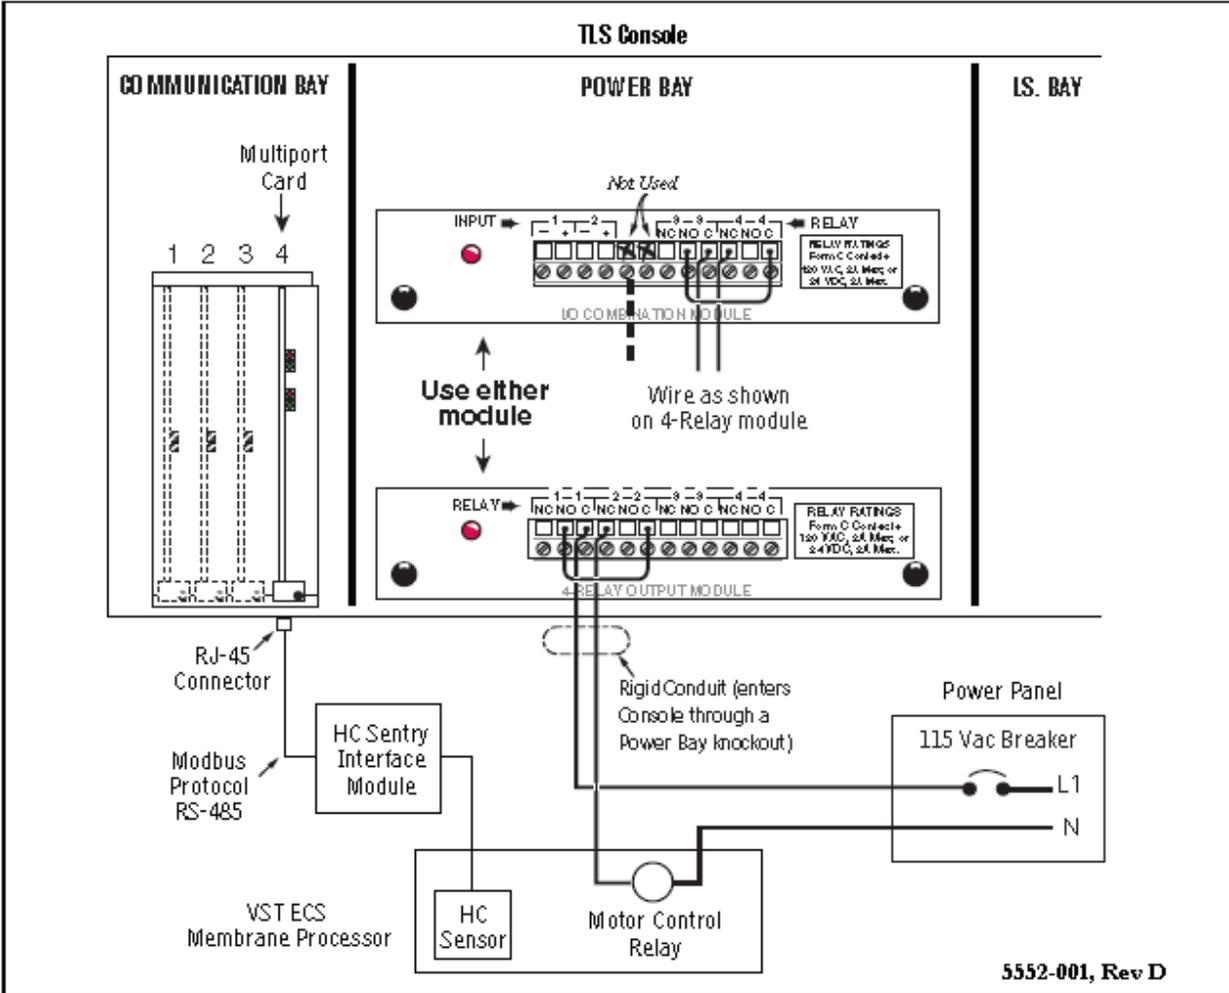

Figure 10: Wiring the Motor Starter Relay Coil
- See Figure 10: Page 15-36 for connections to the TLS-350.